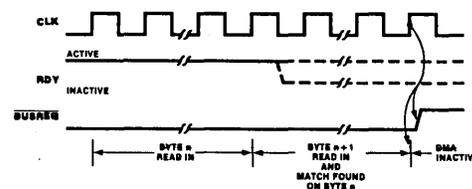

Figure 19. Bus Release on Match (Burst and Continuous Modes)
**Bus Release on Match.** If the DMA is programmed to stop on match in Burst or Continuous modes, a match causes  $\overline{\text{BUSREQ}}$  to go inactive on the next DMA operation, i.e., at the end of the next read in a search or at the end of the following write in a transfer (Figure 19). Due to the pipelining scheme, matches are determined while the next DMA read or write is being performed.